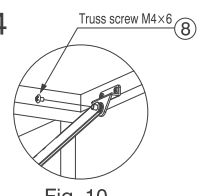

Fig. 10
Step 4. Adjusting the axis of the HDSN-SZ mounting plate ④ and the hole in the arm end, insert the truss screw M4×6 ⑤.
Step 5. Check the door opening and closing function and adjust the position of the HDSN-SZ mounting plate ④ through its oblong hole.
Step 6. Remove the arm from the mounting plate. Then, fix the plate firmly with the bind tapping screw ⑥ into its circular hole.
Step 7. Insert the arm into the axis of the mounting plate again and fix the arm firmly with the truss screw M4×6 ⑤. (Fig. 10 HDSN-AZ)